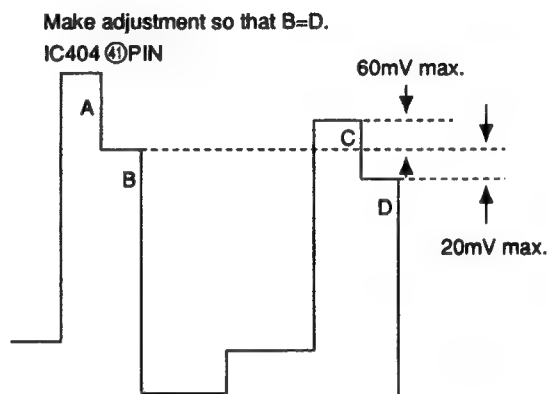

Fig. 5-28
- 2) Connect the probe of an oscilloscope to IC404 ④ PIN or TP401.
- 4) Adjust **R-Y LEVEL PAL** so that the peaks of waveforms will be flush with each other as shown on the right. (Fig.5-28)